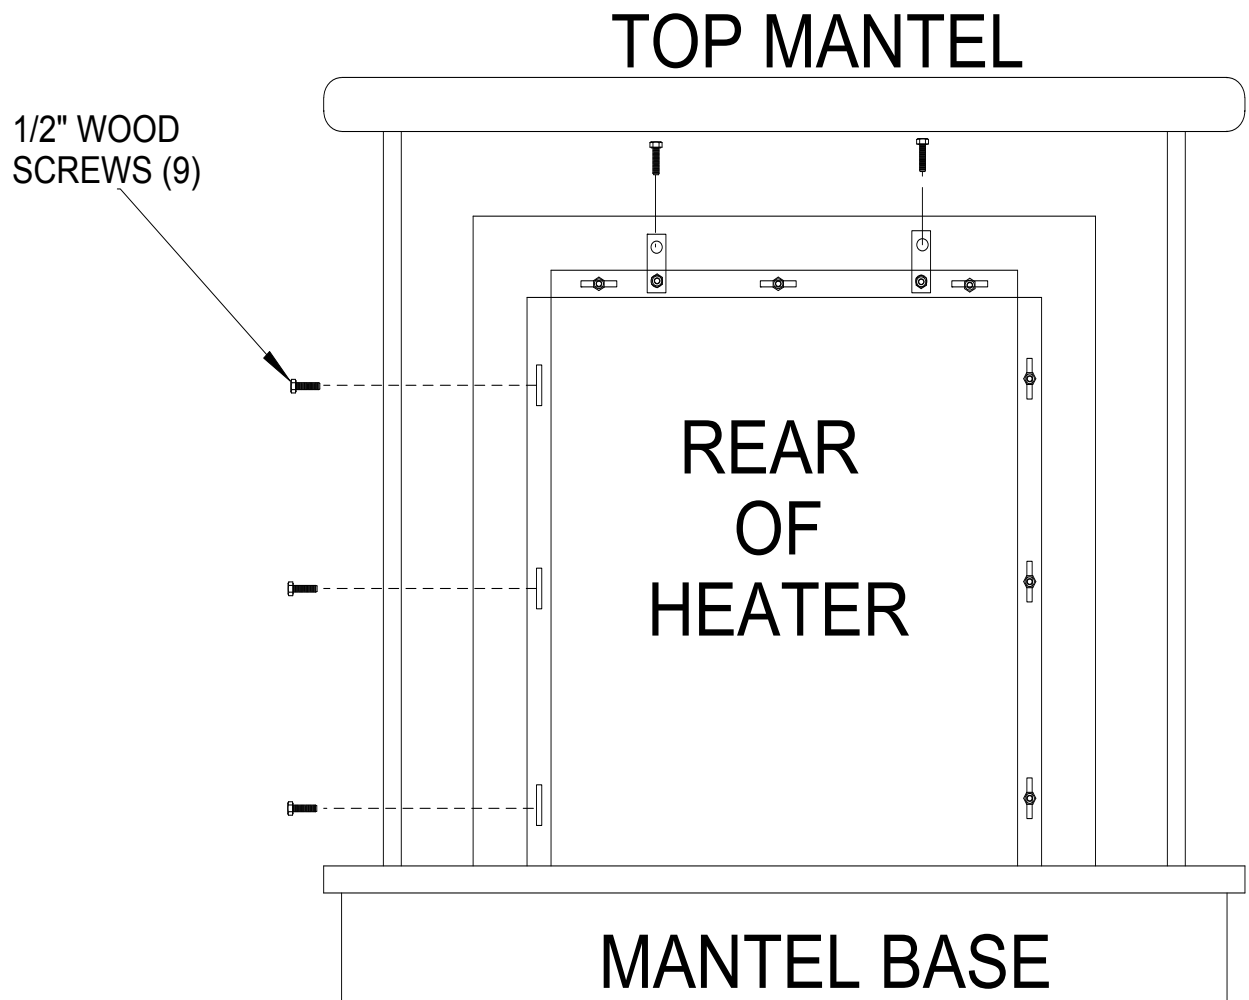

FIGURE 6
(2) Screen(s) can not be removed or altered (Position screen(s) in the closed position before leaving heater unattended).
(3) Follow instructions for assembly of (Optional) Wooden Mantel. See instructions supplied with mantel.
(4) After mantel has been assembled, slide the heater from the rear into the opening of the mantel.
(5) Center the heater in the opening of the mantel. See Figure 6.
(6) Fasten mantel to hearth by using ½" wood screws.
(7) Insert the nine (9) ½" wood screws provided with mantel through slots on nailing flange and secure in place. See Figure 6.
(8) Position mantel and fireplace into desired location.
(9) To light the heater, see “Lighting Instructions” pages 19 through 30. Make sure you have the right gas valve for Natural or LP gas.